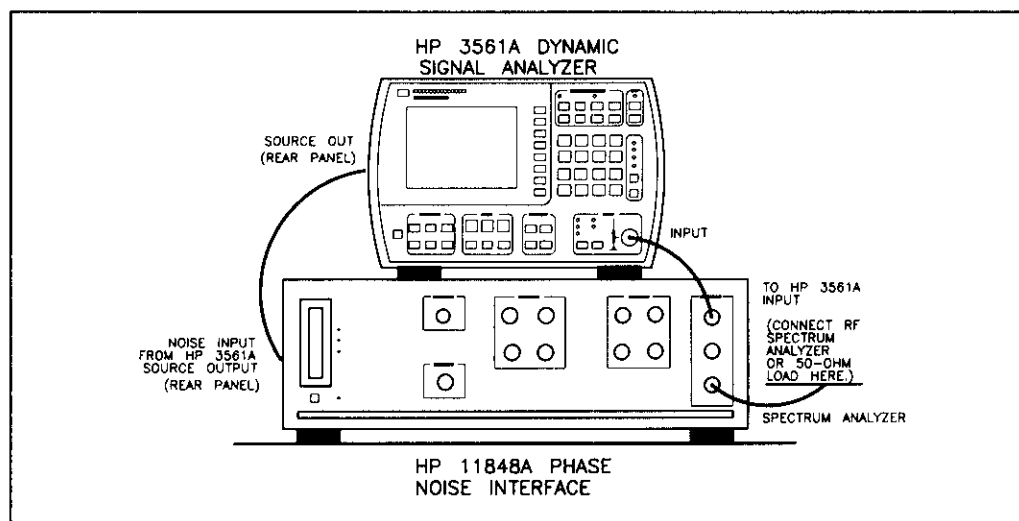

Figure 25. First Option 1 Calibration Setup
5. Connect the instruments as shown on the display and in figure 25.